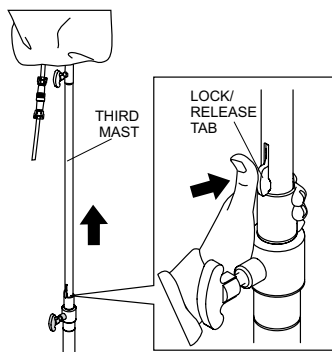

Figure 22. Lowering Third Mast
2. Push the lock/release tab on the third mast to release it and lower third mast. See Figure 22.